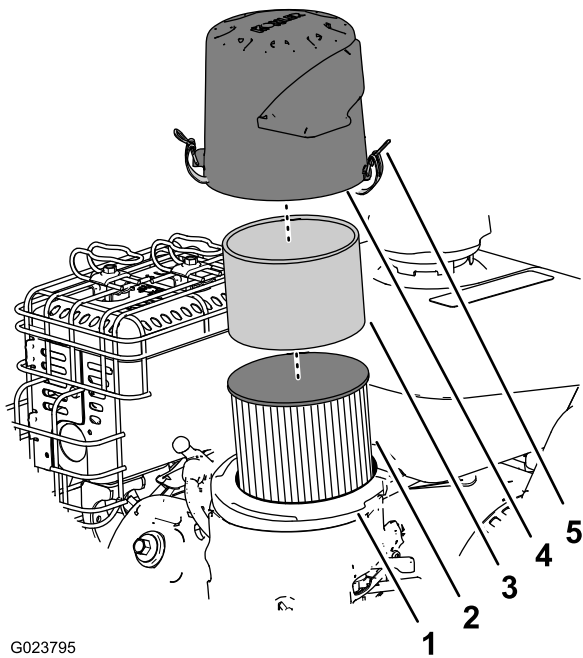

Figure 21
2. Remove the cover and clean it thoroughly (Figure 21).
3. Remove the foam pre-cleaner, wash it with a mild detergent and water, and then blot it dry (Figure 21).
4. Remove and inspect the paper air filter (Figure 21); discard it if it is excessively dirty.
6. Install the foam pre-cleaner onto the paper air filter (Figure 21).
7. Install the air filter assembly to the air-filter base (Figure 21).